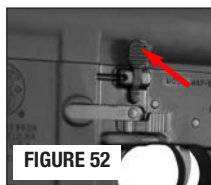

FIGURE 52
- Push the top of the bolt release (from either side) to ensure that the bolt is in the forward position (FIGURE 52).